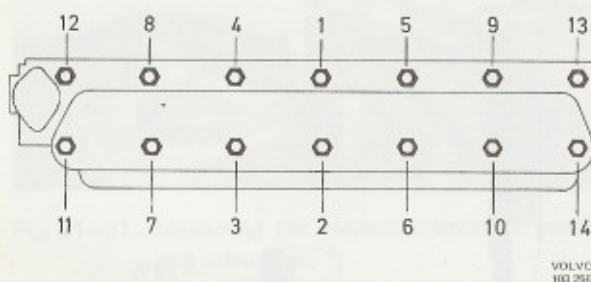

Fig. 21-17. Tightening sequence for cylinder head bolts
3. Fit the cylinder head and the retaining bolts. Tighten in the sequence shown in Fig. 21-17 and in two stages: 1-40 Nm (4 kpm = 29 lbftf), stage 2-80 Nm (8 kpm = 57 lbftf).